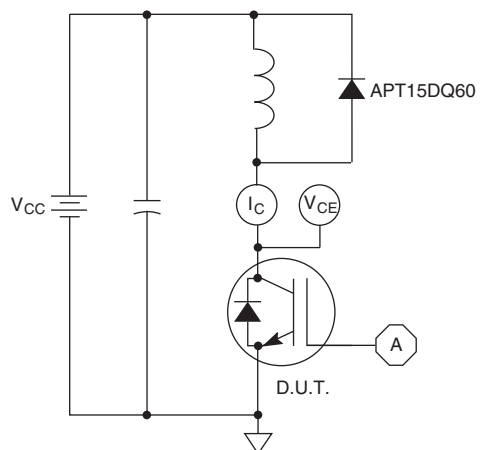

Figure 21, Inductive Switching Test Circuit
① Repetitive Rating: Pulse width limited by maximum junction temperature.
② For Combi devices, I_{ces} includes both IGBT and FRED leakages
③ See MIL-STD-750 Method 3471.
④ E_{on1} is the clamped inductive turn-on energy of the IGBT only, without the effect of a commutating diode reverse recovery current adding to the IGBT turn-on loss. Tested in inductive switching test circuit shown in figure 21, but with a Silicon Carbide diode.
⑤ E_{on2} is the clamped inductive turn-on energy that includes a commutating diode reverse recovery current in the IGBT turn-on switching loss. (See Figures 21, 22.)
⑥ E_{off} is the clamped inductive turn-off energy measured in accordance with JEDEC standard JESD24-1. (See Figures 21, 23.)
⑦ R_G is external gate resistance, not including $R_{G(int)}$ nor gate driver impedance. (MIC4452)